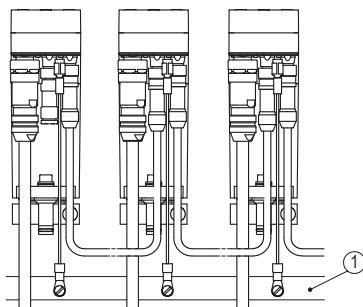

Fig. 7: Ground bar
For protection against interference, the screens of the signal lines and the power line must be connected on both sides. Potential differences cause inadmissible currents on the screen. Apply the PE connection (4) to the protective conductor potential below the connecting plugs (see Fig. 6). Use 6.3 mm flat connectors with short strands 2.5 ... 4 mm2 (not in the scope of delivery). For multiple actuators we recommend connecting the earthing to a ground bar (1) (see Fig. 7).